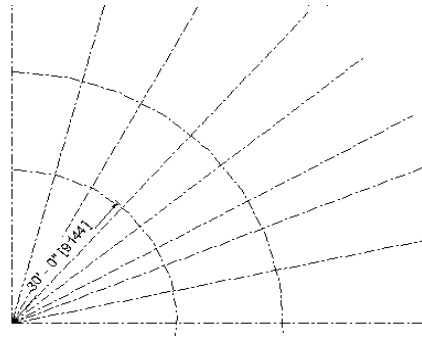

Figure 3-63 Dragging the grid endpoint to resize
2. Now, press and drag the cursor toward the left and release the mouse when the cursor along with the grid endpoint reaches to the location shown in Figure 3-63.